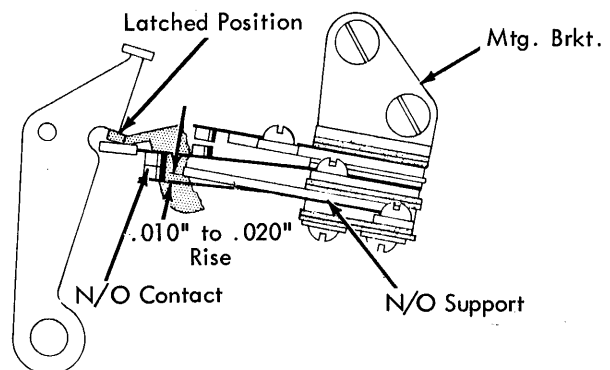

FIGURE 215. Carrier Return Interlock Active
- c. With the carrier return clutch latched, position the mounting bracket so that the N/O contact rises .010" to .020" from the N/O support (Fig. 215).